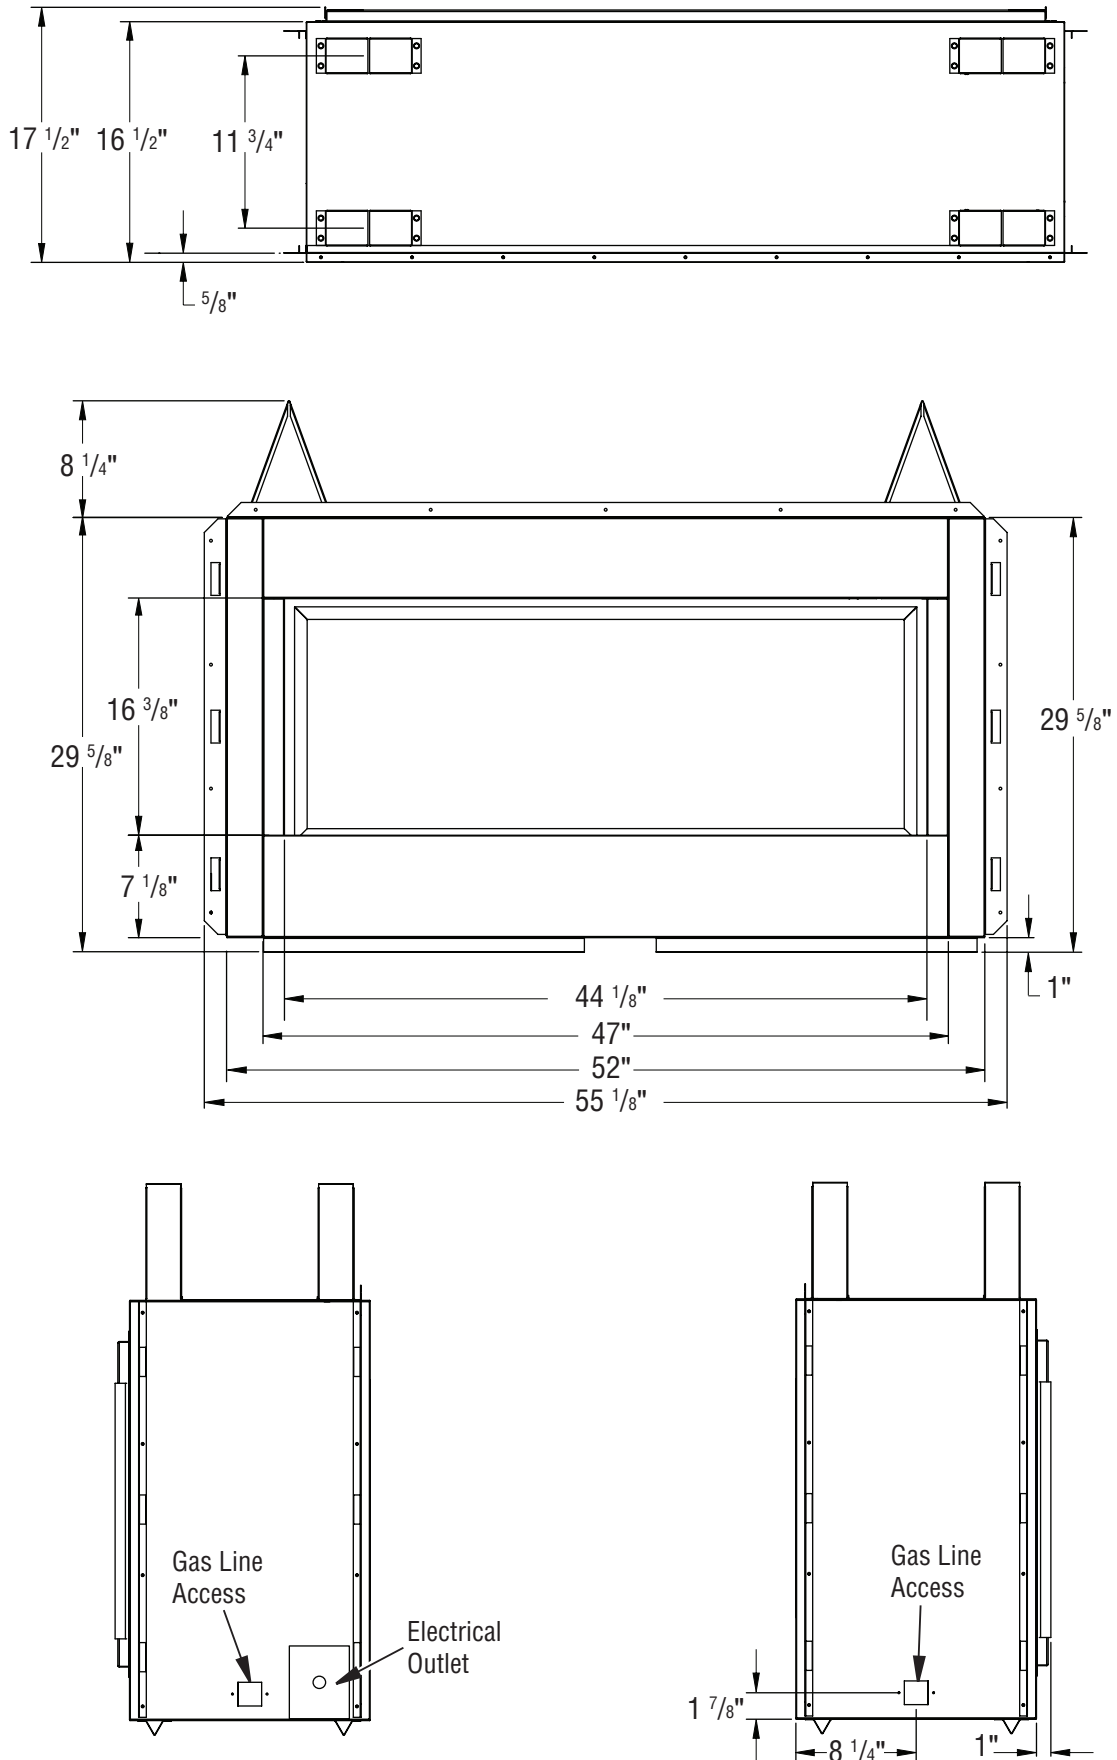

Figure 8 - VRL4543 Series Dimensions
*Please refer to overall fireplace width (Figure 8, page 9) before rough framing construction.